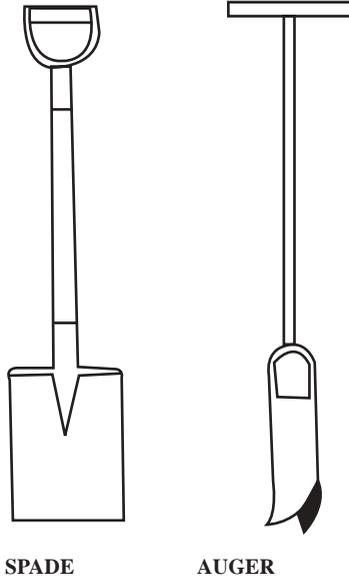

Figure 2
Usual sampling tools are a spade or an auger (fig. 2). Make sure your tool is clean. A plastic container is useful for collecting the sub-samples.
a) auger: a 7cm post hole auger (fig. 2) is the easiest tool to use in many cases. It is simply twisted into the ground and then lifted, with the soil remaining in the auger. The soil is then removed and put into a container. Usually the sampler will have to make at least two borings for each subsample to reach the required depth. A mark on the handle at 20cm will show when the right depth is reached.